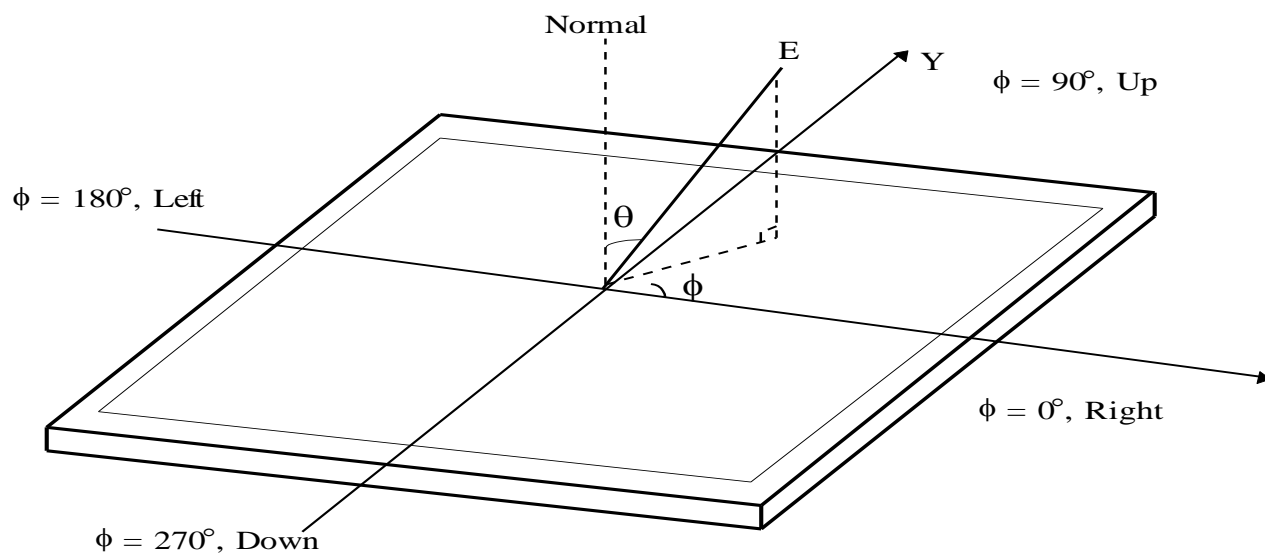

FIG.6 Viewing Angle
Optical characteristics are determined after the unit has been 'ON' and stable in a dark environment at  $25\pm 2^{\circ}\text{C}$ . The values are specified at distance 50cm from the LCD surface at a viewing angle of  $\Phi$  and  $\theta$  equal to  $0^{\circ}$ . FIG. 6 shows additional information concerning the measurement equipment and method.
5. Viewing angle is the angle at which the contrast ratio is greater than 10. The angles are determined for the horizontal or x axis and the vertical or y axis with respect to the z axis which is normal to the LCD module surface. For more information, see the FIG. 6.